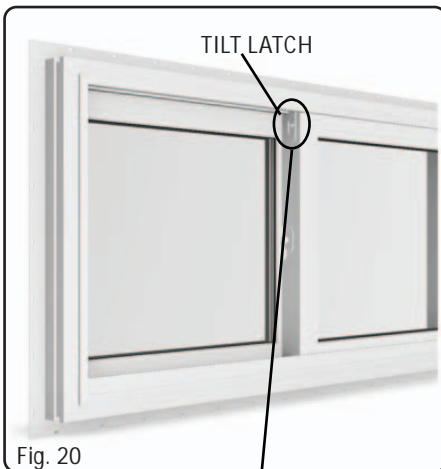

Fig. 20
2. Locate the tilt latches on each side of the sash. Push down and retract the tilt latches simultaneously (Fig. 20).